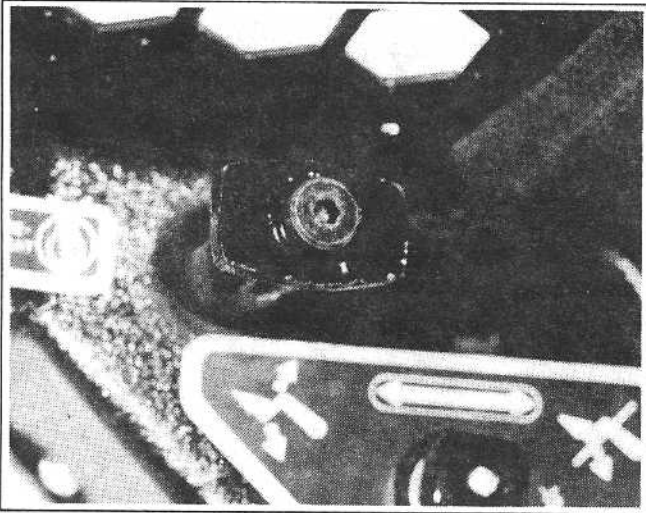

Figure 1-4
2. Using a 5/16 inch hex wrench unscrew the retaining bolt which extends through the spring and knob into the lock pin. See figure 1-4.